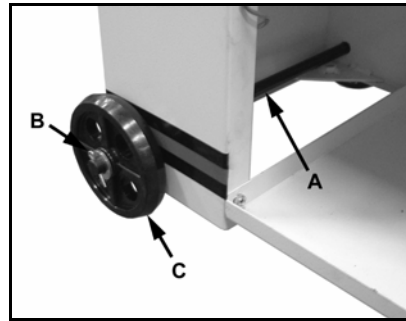

Fig 2
Slide the axles (A, Fig 2) through the swivel base and place one wheel (B) on each side before you secure with the supplied split pins (C).